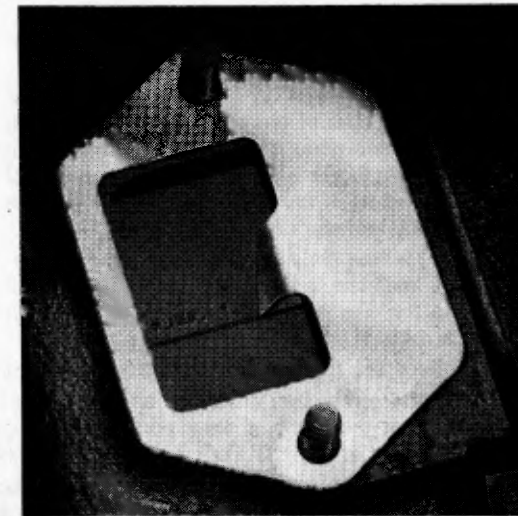

Fig. 34
- (4) Continue to crank the engine slowly until the timing mark 'INJ. PUMP 1, 4' on the flywheel coincides with the pointer on the flywheel housing (see Fig. 34). No. 1 piston is now set at 28° B.T.D.C. on its compression stroke.